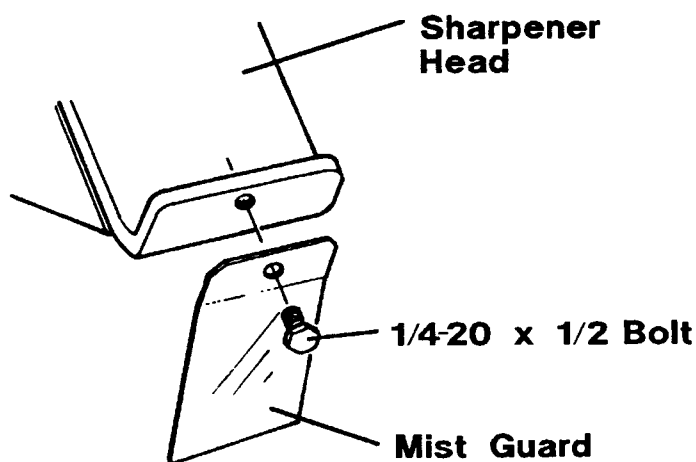

FIG 2-6
1. With the LTADS Sharpener and wet-grind catch tray already mounted, assemble the mist guard to the tapped hole in the sharpener handle with the 1/4-20 x 1/2" bolt as shown in **Figure 2-6**.